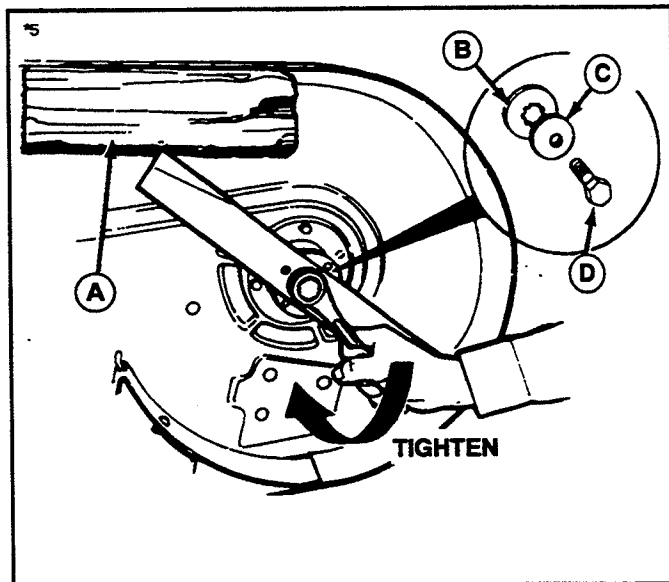

Figure 27. Installing the Blade
6. Reinstall each blade with the tabs pointing up toward deck as shown in figure 27. Secure with a capscrew (D), cup washer (C) and spline washer (B). Be sure spline washer hub fits inside blade mounting hole. Use a wooden block to prevent blade rotation and torque capscrews to 50-70 ft.lbs. (67-95 N.m.).